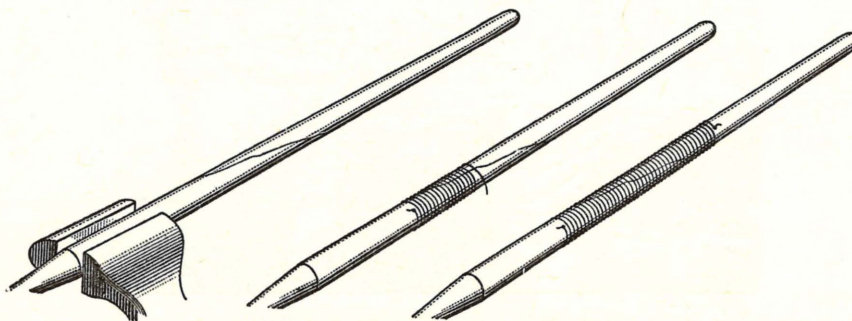

Fig. 614—Wrapping a handle with wire
1. Clamp the handle in a vise. Leave as much of the break above the jaws of the vise as possible in order to leave room for wrapping. (Fig. 614.)